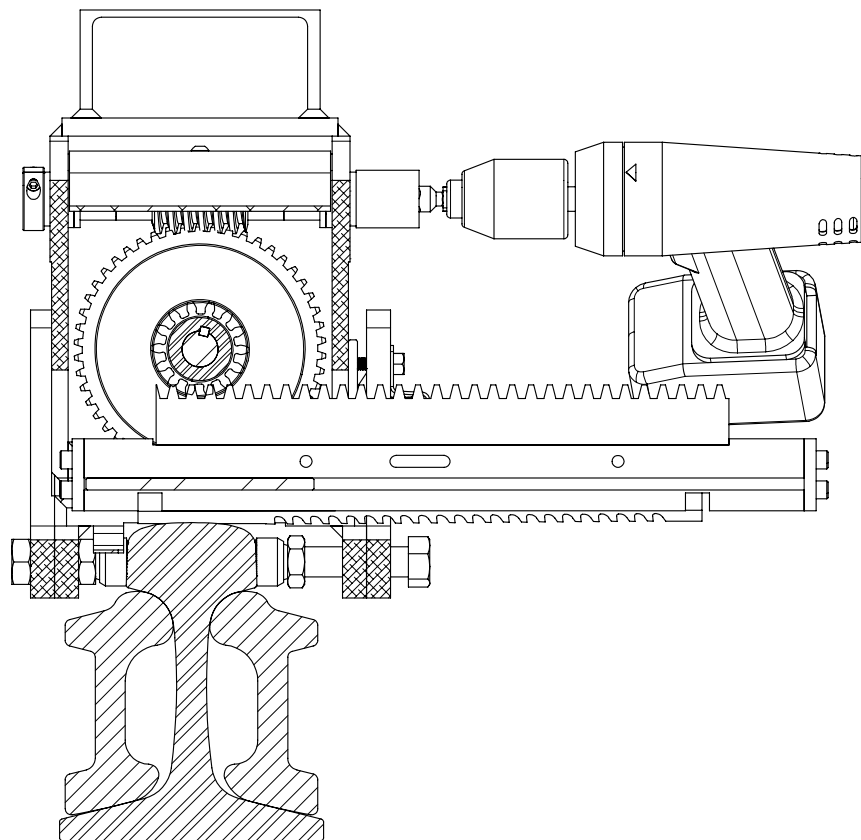

Figure 24: Position of the gear rack at the end of cut
9. Turn the worm drive shaft counter-clockwise to move the cutting tool from the gauge side of the rail to the field side. The gear rack should continue to the end of cut position (**Figure 24**). Care should be taken that the rack gently reaches its end of travel position, as the drill will twist abruptly.